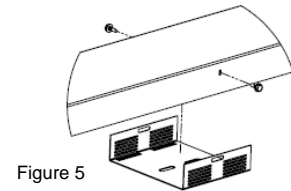

Figure 5
6. For 8ft fixtures, measure and mark the center of the fixture housing and then bend and secure the large bracket in the center of the housing (Fig 5).